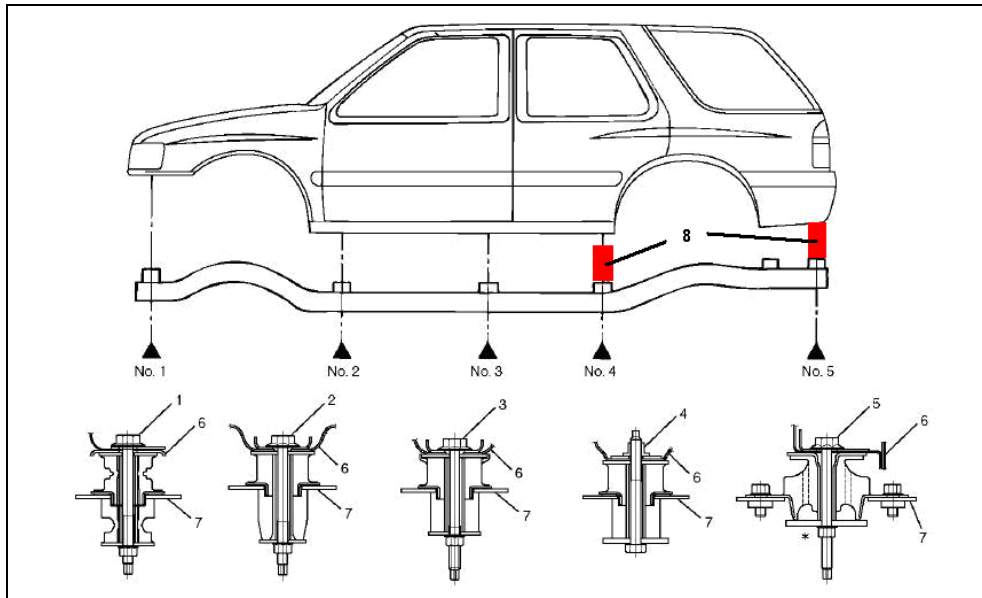

Figure 37
5. Remove body mount mounting nuts and bolt (mounts #1, #2, #4 and #5 use nuts/ mount #3 uses a bolt) for body mounts #1 through #5. See Figure 37.